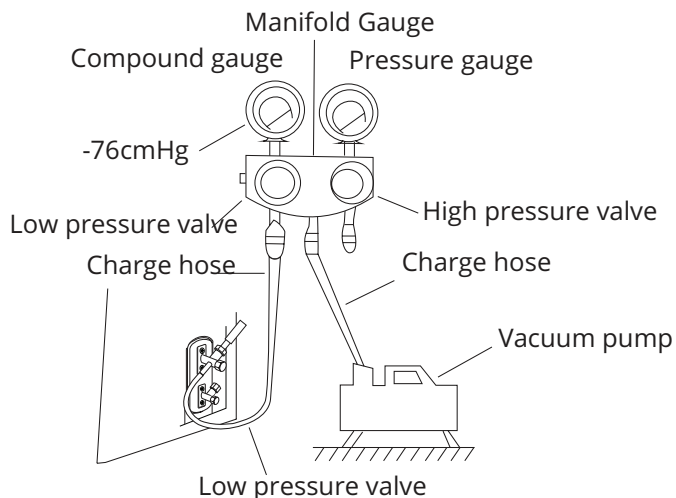

Fig 9.2
2. **Connect gauges** Connect low pressure manifold gauge hose to mini-split adapter; connect mini-split adapter to low pressure lineset valve A (see Fig. 9.2).
6. **Evacuate lines** Connect micron gauge and vacuum pump to the line valve A as shown in Fig. 9.2.